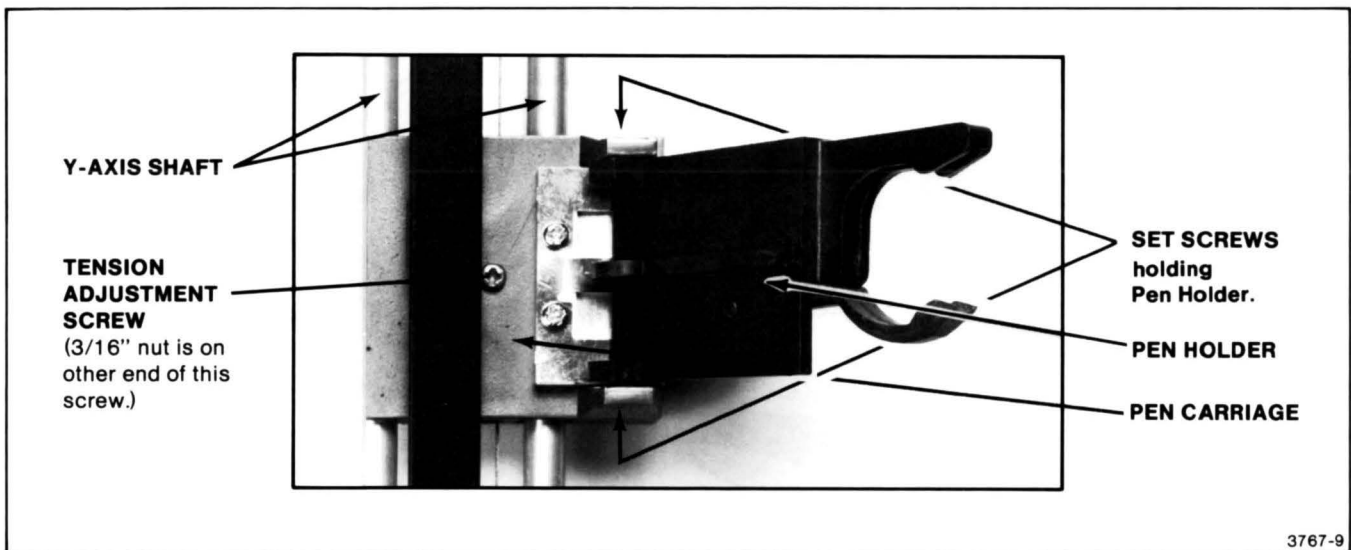

Figure J-10. Pen Carriage Slide Tension Adjustment and Pen Holder Mounting Details.
3. **Use** a .050" Allen wrench to loosen (do not remove) the two set screws that hold the pen holder to the pen carriage and remove the pen holder (see Figure J-10).